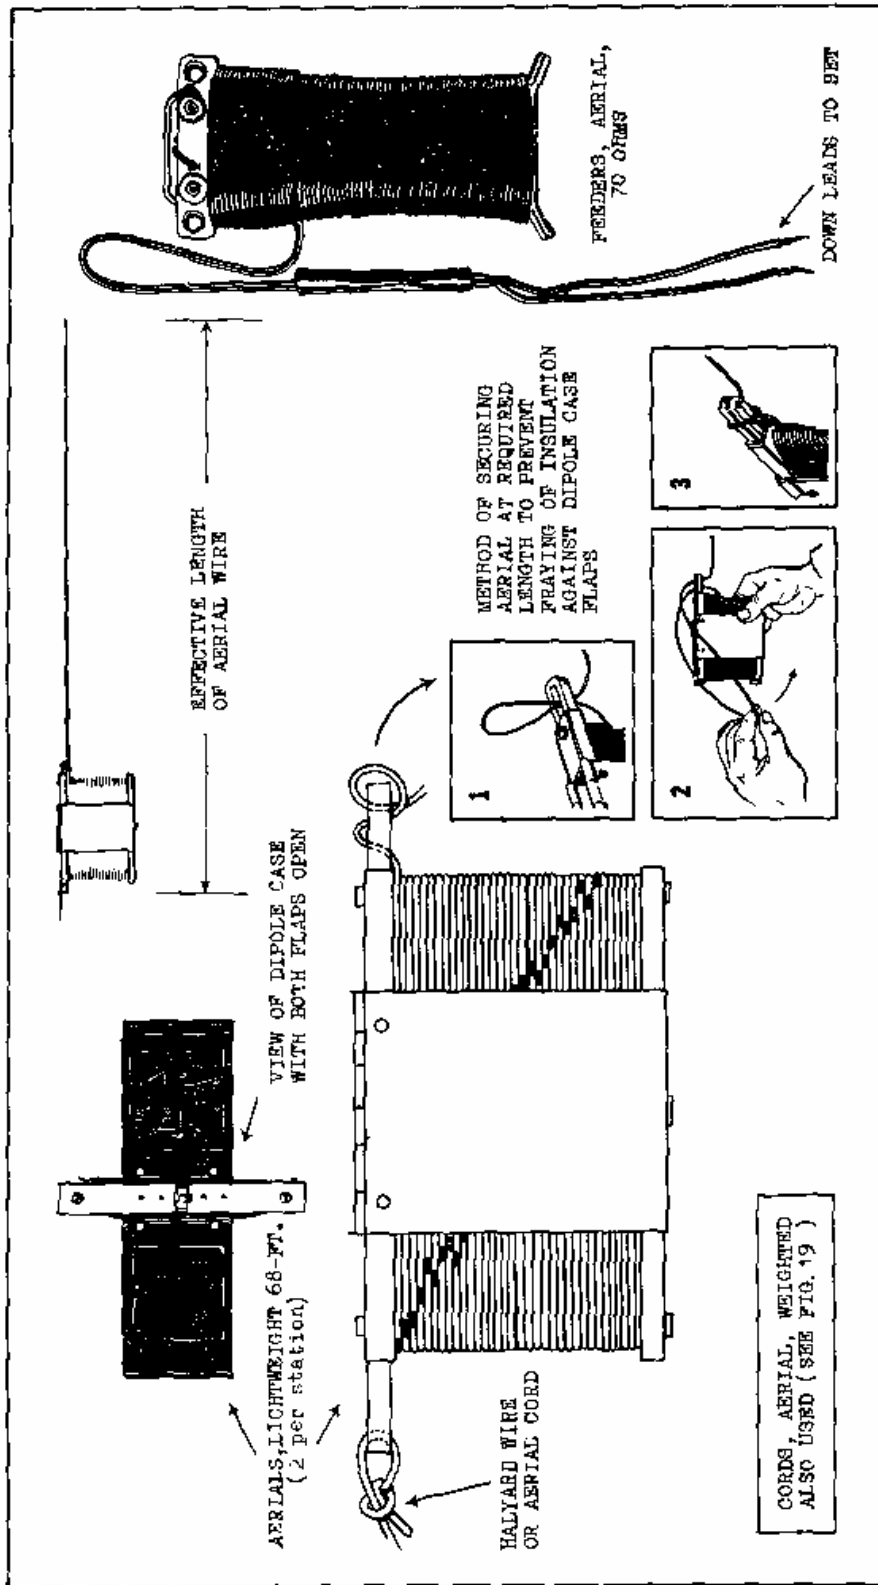

FIG. 22 - DIPOLE AERIAL COMPONENTS
60. The aerial and its accessories (except "Cords, aerial, weighted", which are already depicted in Fig. 19) are shown in Fig. 22.
- 3 : *The length of each dipole case should be included in the effective length of aerial. (See Fig. 22).*
- (d) If setting up between trees, unwind the aerial cord, and, using the bobbin as a throwing device, throw it over the highest possible branch of the lower tree. Attach the cord to the dipole case as shown in Fig. 22. Then move to the other tree, and select a branch on about the same level as that of the lower tree. (This is to ensure that the aerial is as near the horizontal as possible.) Repeat the drill with the other bobbin.
- (e) If setting up between masts, attach the halyards to the dipole cases as shown in Figs. 22 and 23.